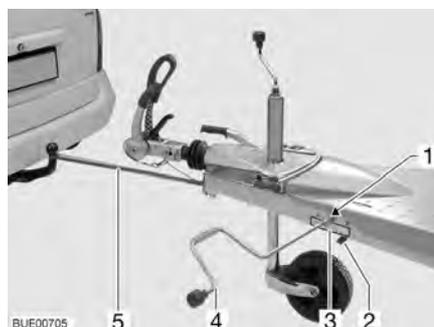

Fig. 5 Hitching device Easy-Pull
- Push the locking lever (Fig. 5,2) to the open position.
- Pull the belt with the hook (Fig. 5,5) out towards the front, lay it around the ball neck of the caravan coupling of the towing vehicle and the secure it.
- Push the locking lever (Fig. 5,2) to the close position.
- Attach the crank for the corner steadies of the caravan (Fig. 5,4) to the hexagon nut (Fig. 5,1) of the cranking mechanism and start cranking. Crank in the rotational direction indicated on the label (Fig. 5,3).